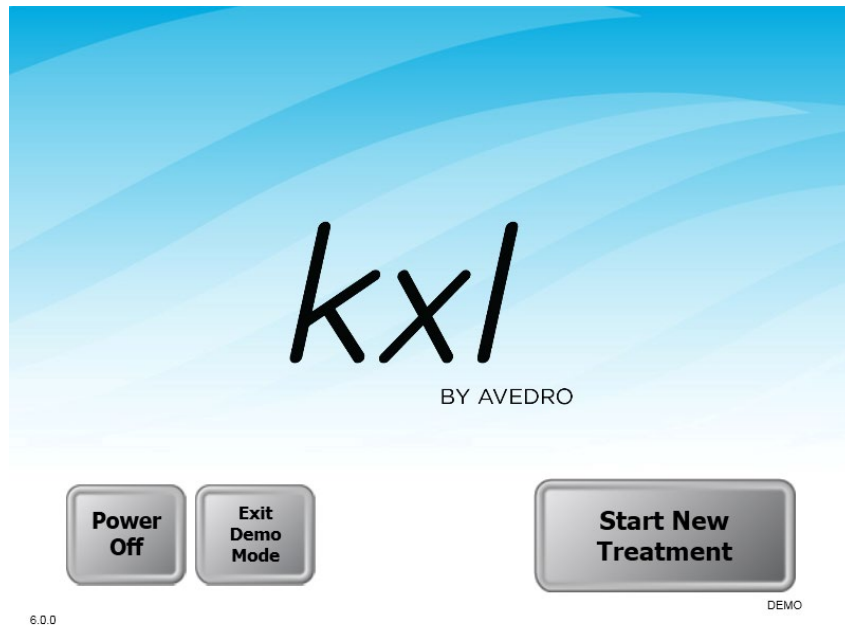
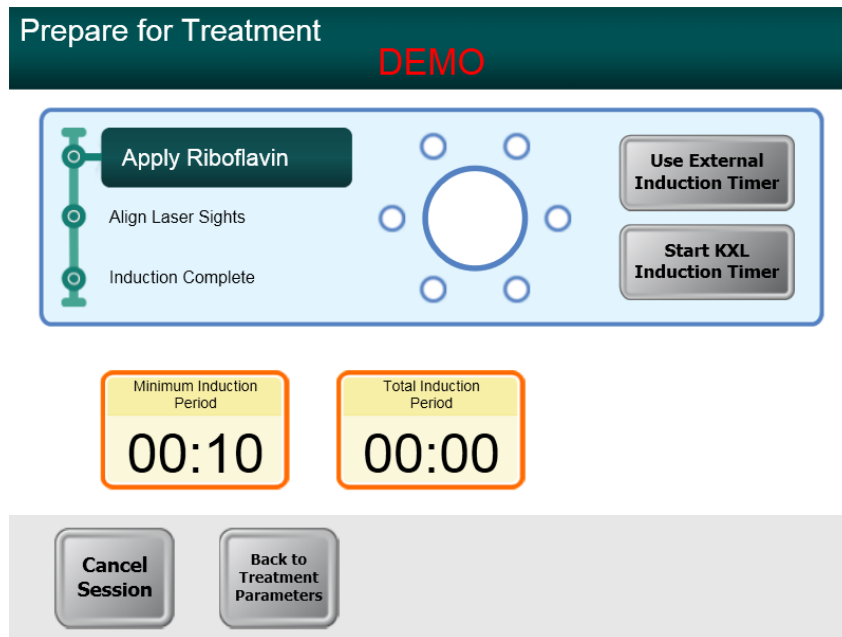

Figure 3-37. Mainscreen Indicates Demo Mode
Figure 3-38. Demo Mode is Indicated at Top of Screen
- The KXL System screens will indicate that the System is currently in “Demo Mode” as shown in Figure 3-37 and Figure 3-38.